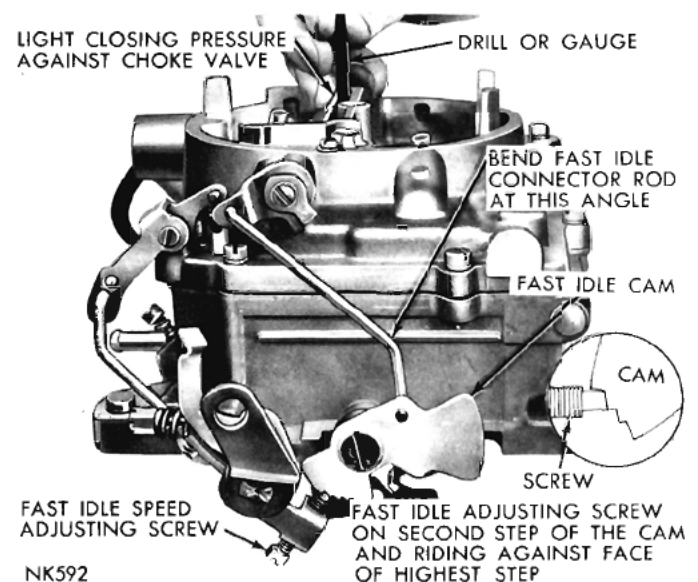

Fig. 13—Fast Idle Cam Position Adjustment
(1) With the fast idle speed adjusting screw contacting the step on the fast idle cam, shown in (Fig. 13), move the choke valve toward the closed position with light pressure. Insert a NO. 50 drill between the choke valve and the wall of the air horn.
(2) An adjustment will be necessary if a slight drag is not obtained as the drill is being removed.
(3) If an adjustment is necessary, bend the fast idle connector rod at the angle, using Tool T109-213 until the correct valve opening has been obtained. Refer to (Fig. 13).